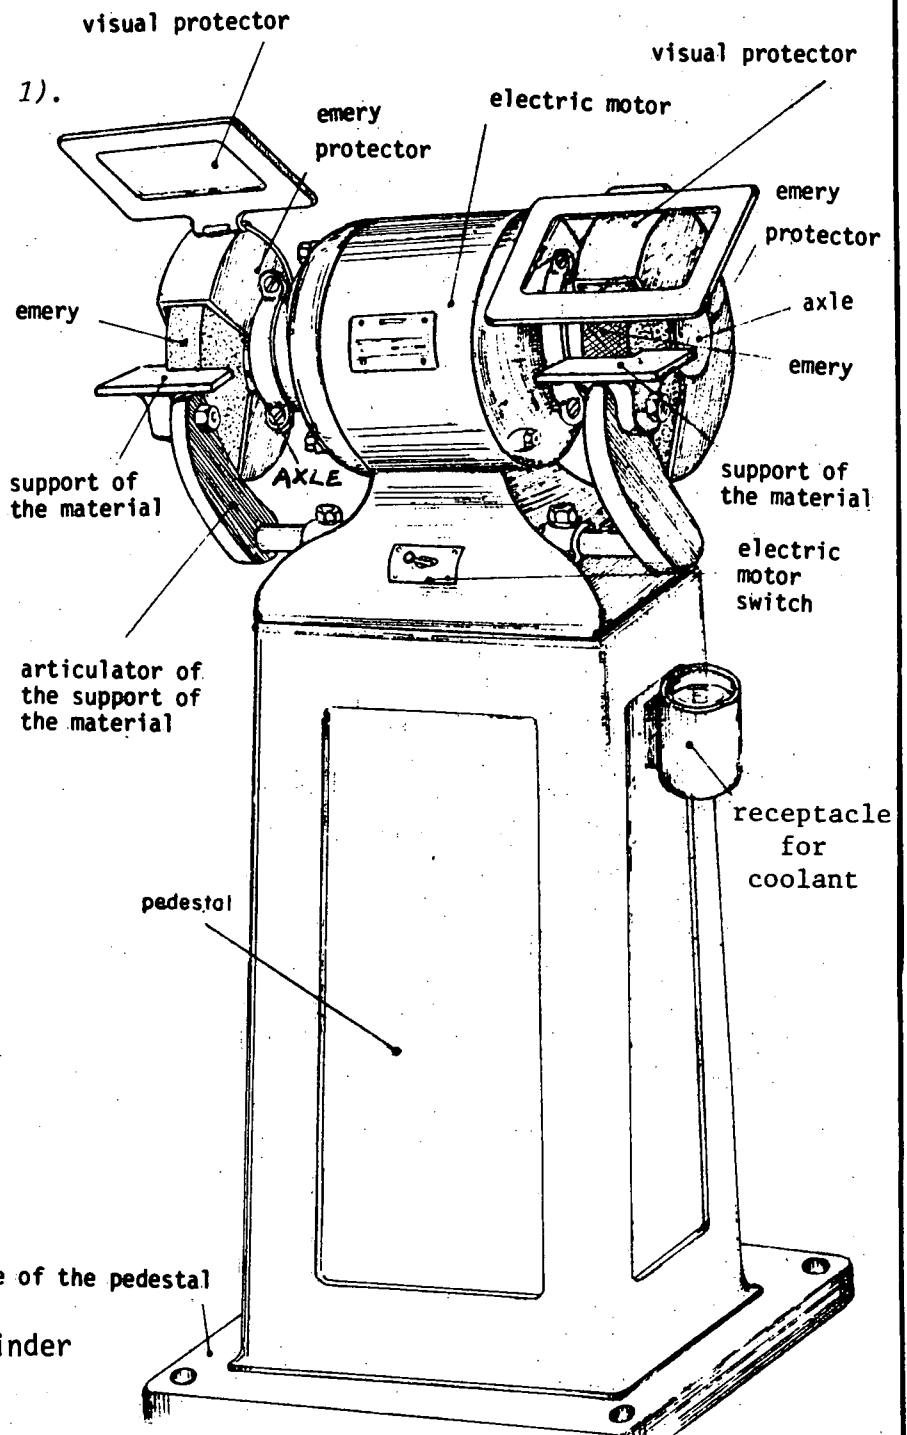

Fig. 1 Pedestal Grinder
Pedestal Grinder (fig. 1).
- e) *Visual Protector* - Indicated in Fig. 1. It is the most practical for work in general.